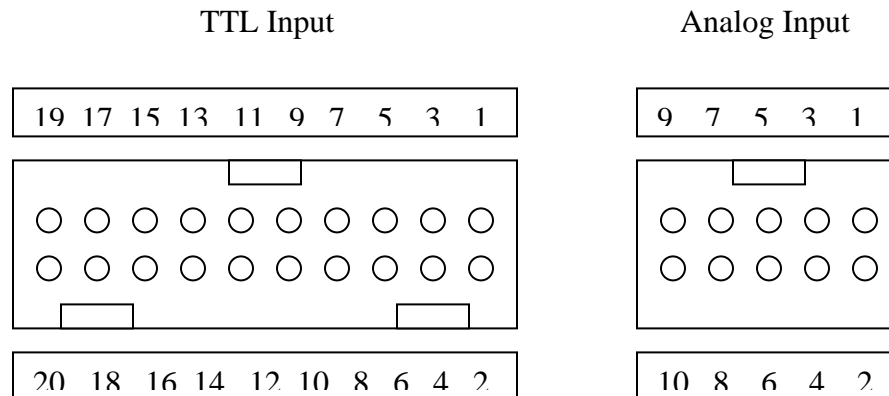

Figure 1 Analog and digital input connector configurations.
Analog and digital input connectors are mounted on the rear panel of the FST-001-B, as shown in Figure 1. The analog and digital input connectors are a 10-pin and a 20-pin AMP type, respectively. All connectors on the FST-001-B have standard 0.10 inch (2.54 mm) pin separation. The pinout diagram is shown in Figure 1.
1. Set the analog signal source at or near zero or its lowest output level. Connect analog signal source to analog input connector on the rear panel (use 10-pin input connector cable; refer to Figure 1 for pinout diagram).